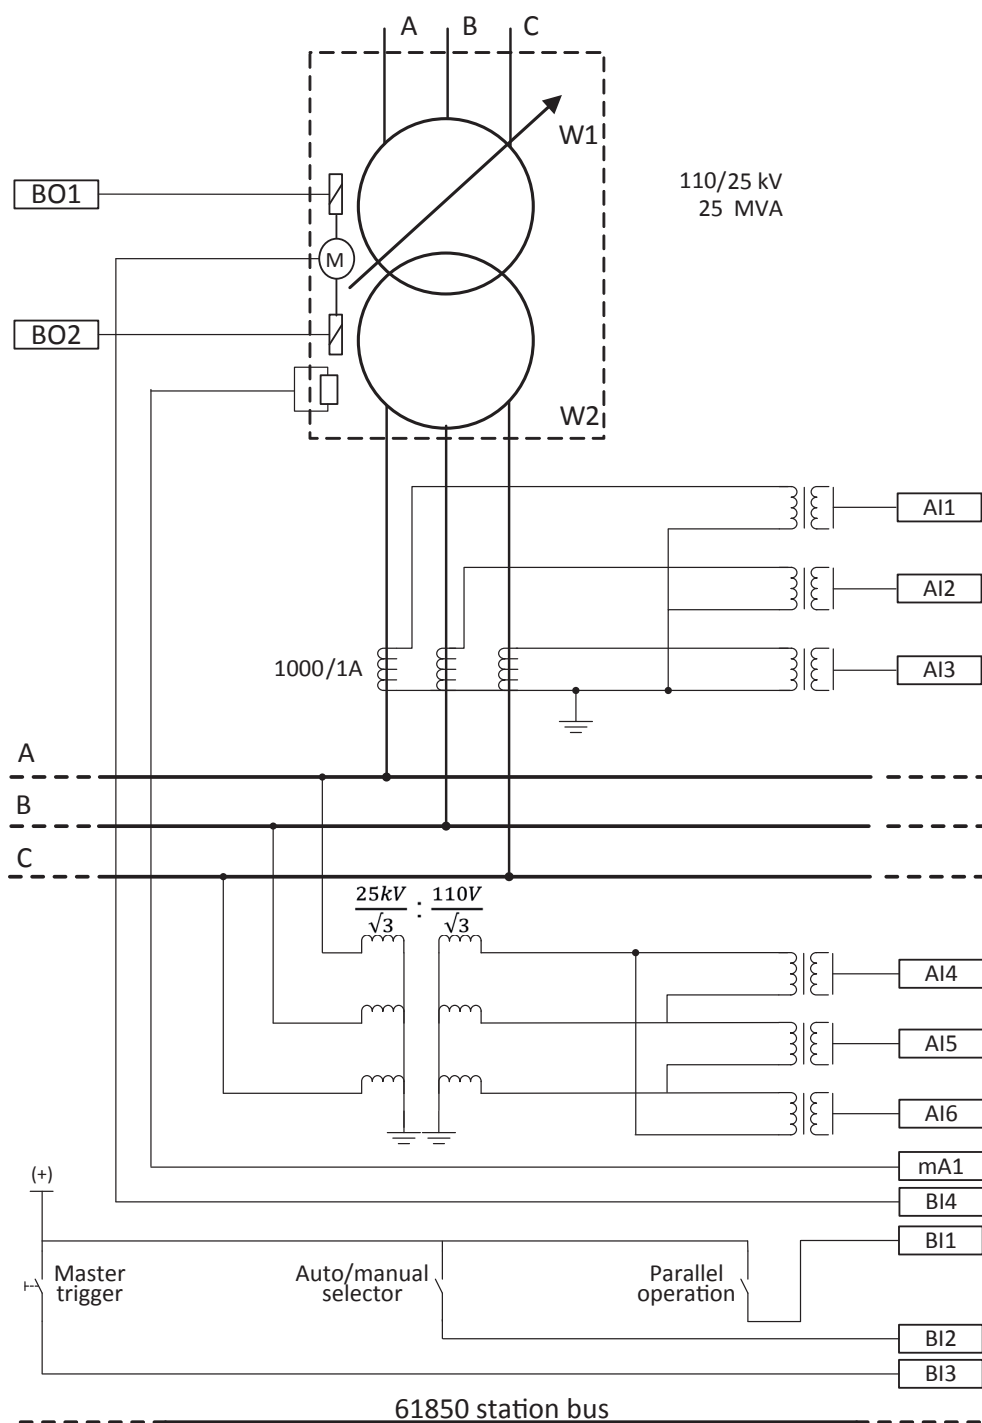

Figure 39: Relay 3 interfaces and CT/VT connections for TR3 in example case 2
Figure 39 shows the connection details of the relay's (Relay 3) analog inputs (AI), binary inputs (BI), milli-Ampere inputs (mA) and binary outputs (BO) for transformer TR3 of the example case. The CT connections for phase current measurements in all phases and the VT connection for voltage measurement on the MV side are also shown. In the example case, the tap changer position value is input as an mA input for transformer TR3 and input to TPOSYLTC.